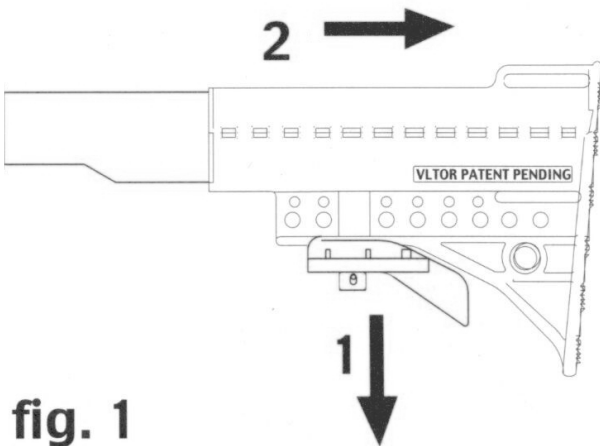

fig. 1
**Removal of existing collapsible buttstock and installation of new Modstock** - To remove the existing collapsible buttstock, grasp the entire locking lever assembly and pull it away from the stock (to fully retract/disengage the lever lock pin) while simultaneously sliding the stock to the rear of the receiver extension. This may be better accomplished by having another person hold the rifle, while you grasp the stock in one hand and the adjustment lever in the other, and pull the two apart. To install the new collapsible Modstock assembly, reverse the removal process. See Figure 1.